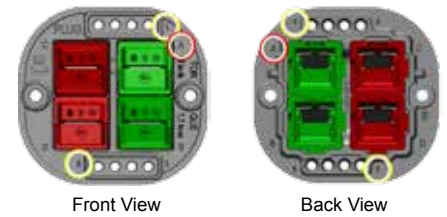

Figure 6
- Positions for the power contacts are labeled A thru D with A being in the upper right corner as you are looking at the front of the holder or upper left corner as you are looking at the back of the holder. (See figure 6)
- Positions for the auxiliary (PowerMod®) contacts are labeled with 1 and 8. 1 is located in the upper right corner and 8 located in the lower left corner as you are looking at the front of the holder. (See figure 6)